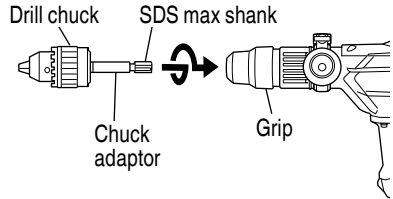

Fig. 29
- Attaching chuck adaptor to drill chuck (Fig. 29)